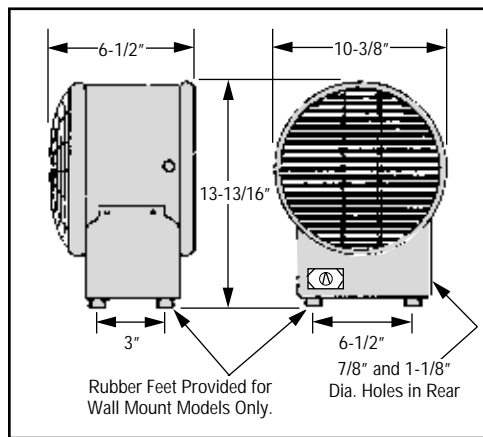

Figure 1
- In either case, the minimum mounting height is 7 feet from floor to bottom of heater. (See Figures 1 and 2.)